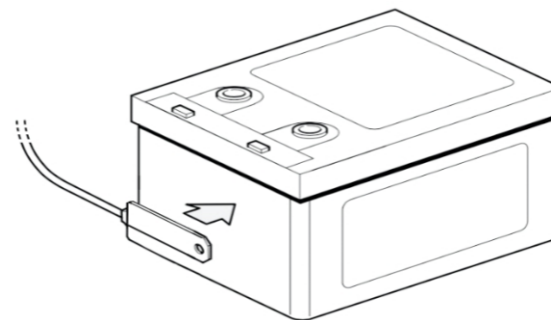

Figure 19 BTS Mounted on the Battery Case
5. Press the sensor firmly against the clean side of the battery to fix it in place, as shown in Figure 19.